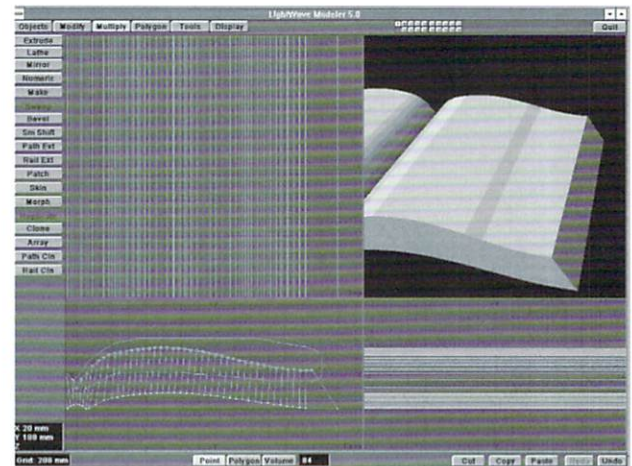

Figure 4
- Using the Point selection tool, Lasso around the right side of the book's top points, as in Figure 4.